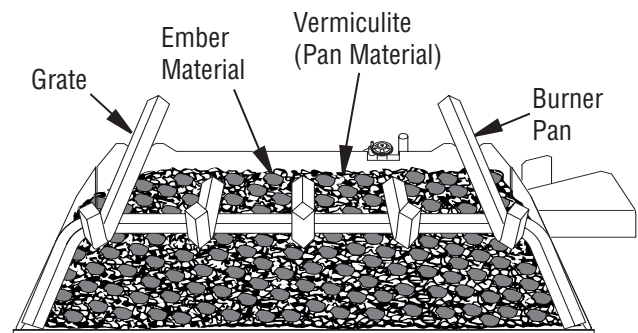

Figure 20 - Ember Material on Surface of Pan Material (Vermiculite)
3. Remove ember material from bag and flatten small amounts into quarter size pieces and lay on top of surface of pan material (see Figure 20).